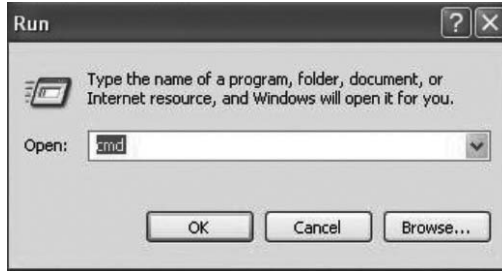

Figure 5-5 Run Window
3. Type cmd in the prompt Run window as Figure 5-5 and click OK.